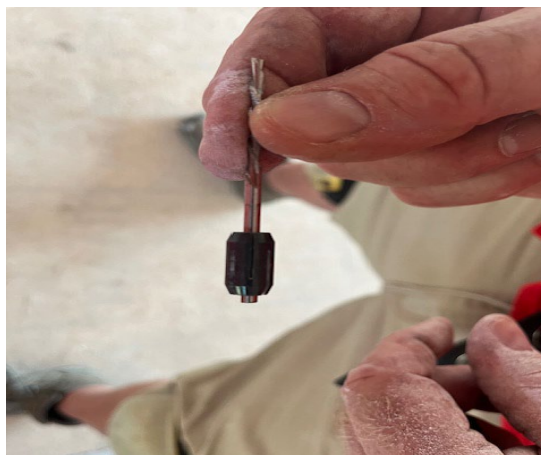

Figure 13-1. Proper Saw Bit Insert Depth.
6. Verify that the cutting bits in the spiral saws are not bent and that the bit protrudes no more than the ideal length of $\frac{5}{8}$ "- $\frac{3}{4}$ " beyond the saw guard. If it is bent remove the clamping sleeve and clean the sheetrock dust from the sleeve slots (with WD-40) to ensure adequate clamping pressure. Replace the bit and position the bit in the sleeve with about $\frac{1}{4}$ " of the bit sticking out beyond the base of the sleeve and reattach the sleeve into the spiral saw (see Figure 13-1).